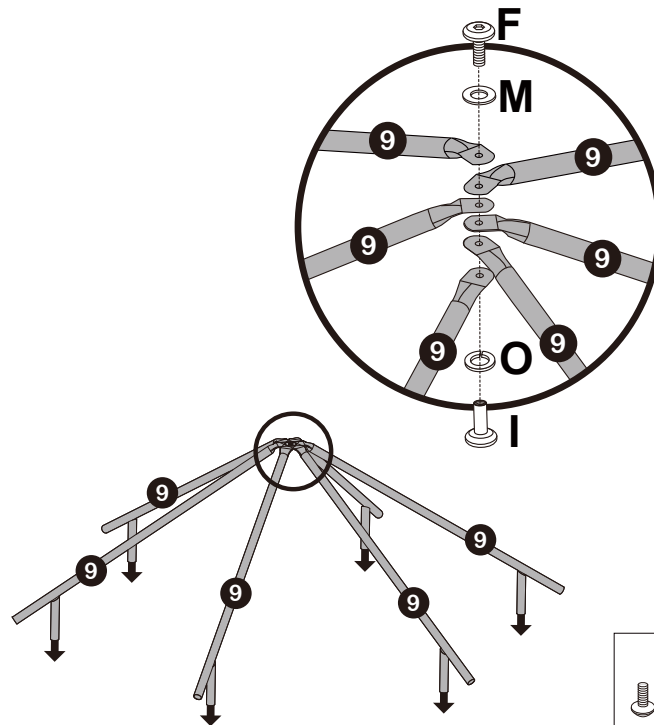

FIGURE 5
- Connect all Canopy Tube (9) together in the sequence as shown in Figure 5.